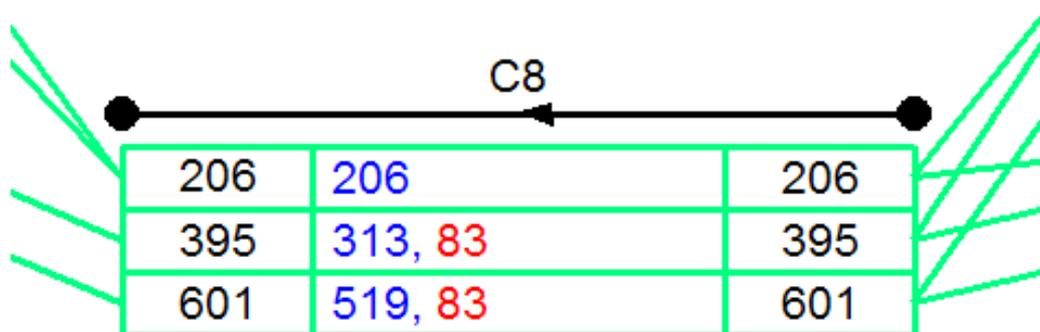

Figure 4.12 : FlowRound Arm showing Lane Flow Components Coloured by Origin
Each Lane displays a detailed breakdown of the traffic flow components passing through it. A typical three Lane Arm – Arm C8 - is shown in Figure 4.12.
- In the Lane Flow Aggregation and Display Settings section of the Route Manager, select 'none' for the aggregation setting, and 'Origin' for the 'Colour Flows by' setting. Ensure the Route Filter settings are set to 'All' to ensure all Route Component Flows are shown. Each Arm in the Network Diagram will resemble Arm C8 shown above in Figure 4.12.